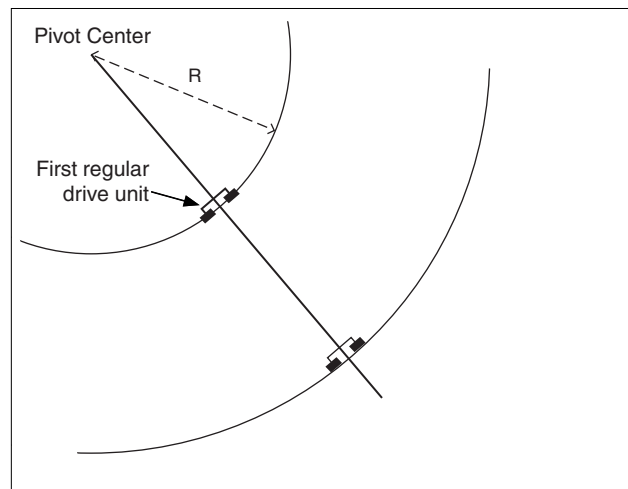

Figure 33-3
6. Measure the distance in feet from the center of the pivot to the center line of the tire on the first regular drive unit. This distance is R. Refer to Figure 33-3.